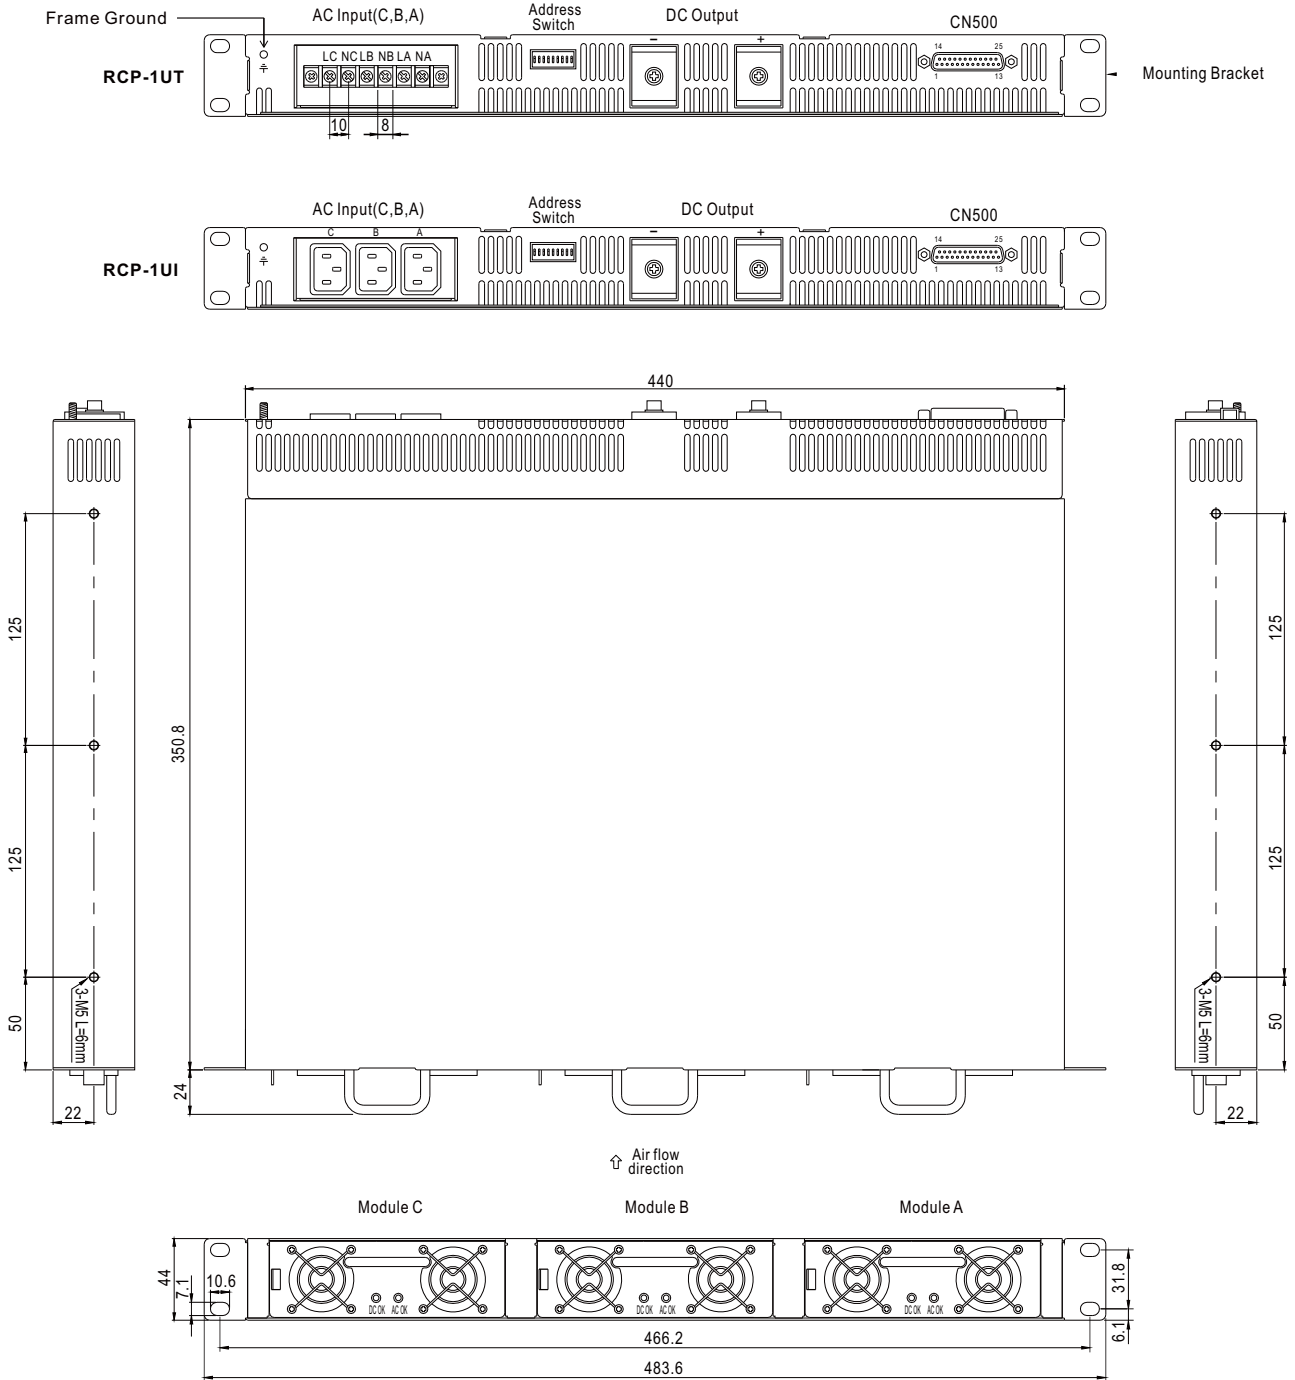

Figure 4-1: System assembly diagram of RCP series
- ⊙ Insert 1~3 pieces of RCP-1000 (with the same output voltage and current) into the RCP-1U□ (refer to Figure 4-1).
- ⊙ Definition of module position: A is on the right, B is in the middle, and C is on the left (refer to Figure 4-1).